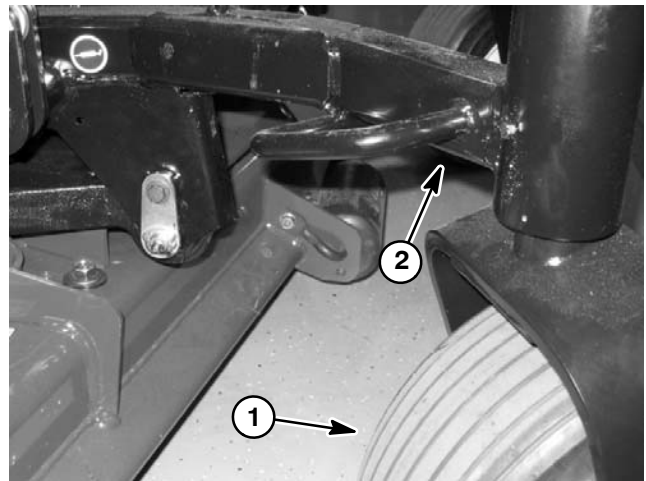

Figure 1
- A. On machines with cutting deck, position jack securely under the square carrier frame tube near the front castor wheel (Fig. 1). Do not use the cutting deck as a jacking point.